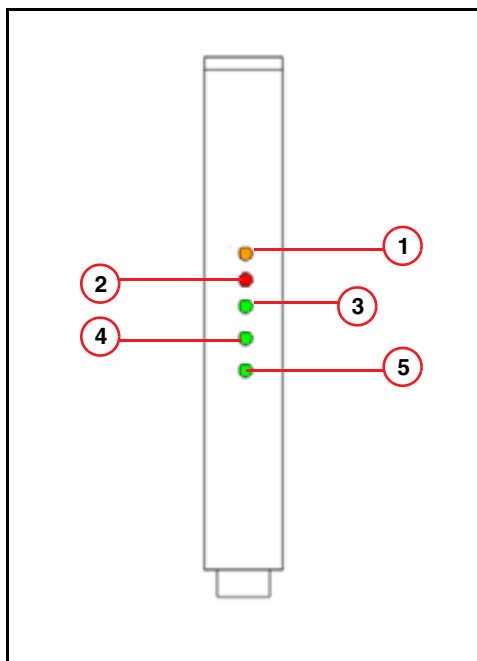

Fig. 22: Parallel back projector board D4/D5
- The yellow LED **RDY** (1/Fig. 22 / p. 48) indicates that the driver is loaded and the board is ready.
- The red LED **ERR** (2/Fig. 22 / p. 48) indicates an error. In this case, start a back projector test with the Service Software.
- The green LED's **DMA IN** (3/Fig. 22 / p. 48) and **DMA OUT** (4/Fig. 22 / p. 48) indicate when a DMA is being performed.
- The green LED **TACT** (5/Fig. 22 / p. 48) indicates